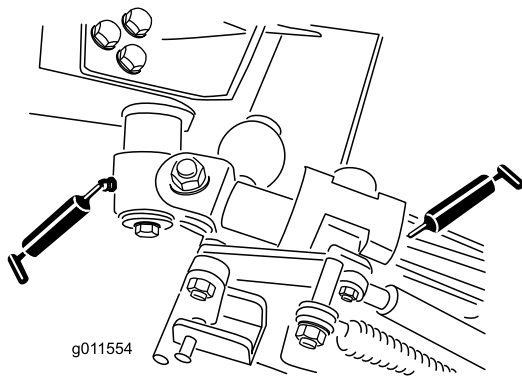

Figure 45
- Bell crank pivot bushings (2) (Figure 45)
- Rear arm bushings (4) (Figure 45)